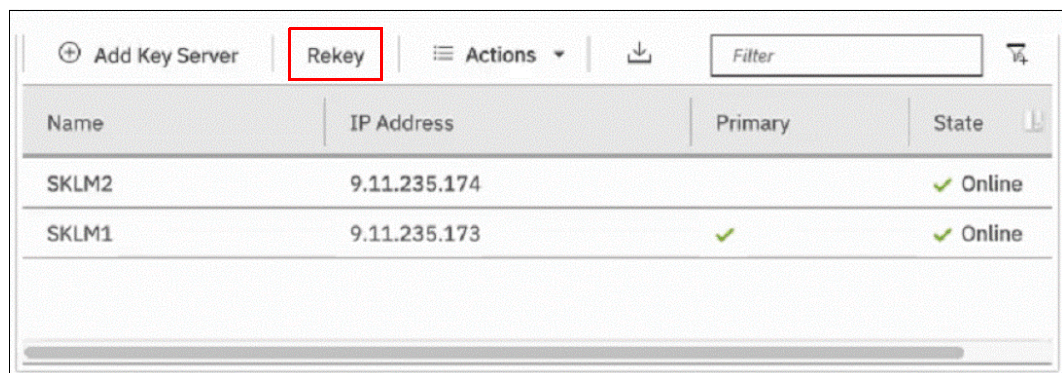

Figure 12-70 Starting the rekey on the IBM Security Key Lifecycle Manager key server
2. Click **Rekey**, as shown in Figure 12-70.